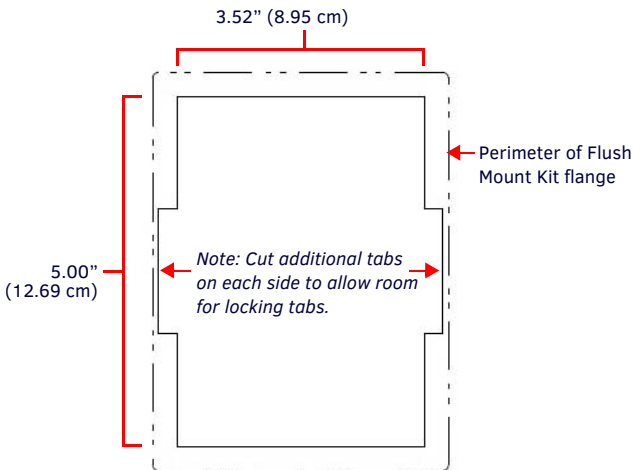

FIG. 1 MXA-FMK-43 CUTOUT TEMPLATE
1. After ensuring proper placement, cut out the mounting surface, using the MXA-FMK-43 Cutout Template (68-5968-08) as a guide (FIG. 1).